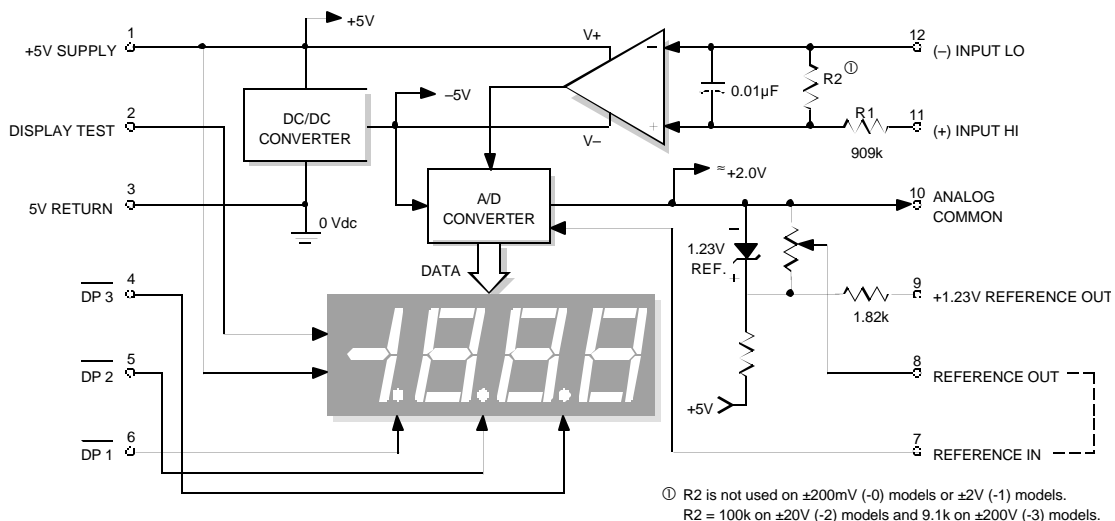

Figure 1. DMS-30PC Series Simplified Schematic
① Applies for transient or continuous overvoltages applied to (+) INPUT HI (pin 11) with (-) INPUT LO (pin 12) properly connected. Pin 12 is not overvoltage protected (see Figure 1). Voltages applied to pin 12 should not exceed the supply voltage.
② See Technical Notes.